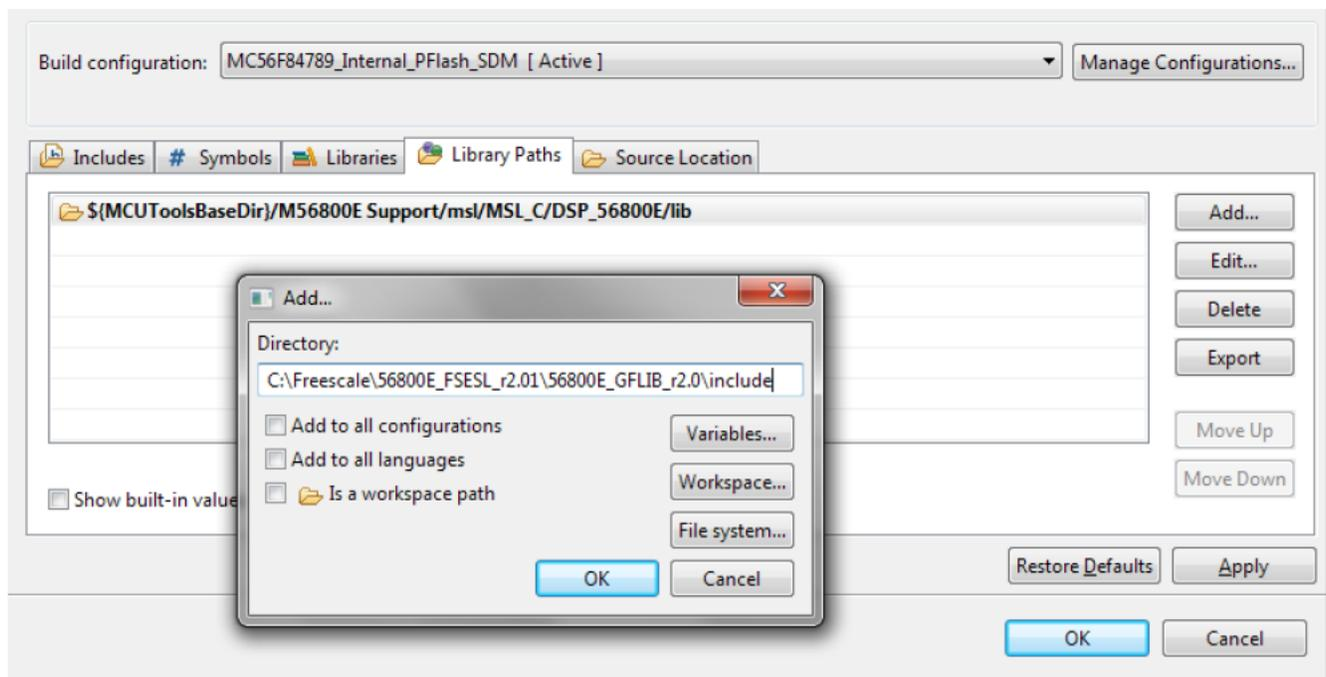

Figure 8. Projects libraries paths
6. Similarly, look for the library path or just type C:\Freescale\56800E_FSESL_r2.01\56800E_GFLIB_r2.0\include, into the box and click OK. Now, the folder will be displayed in the table. See Figure 8.